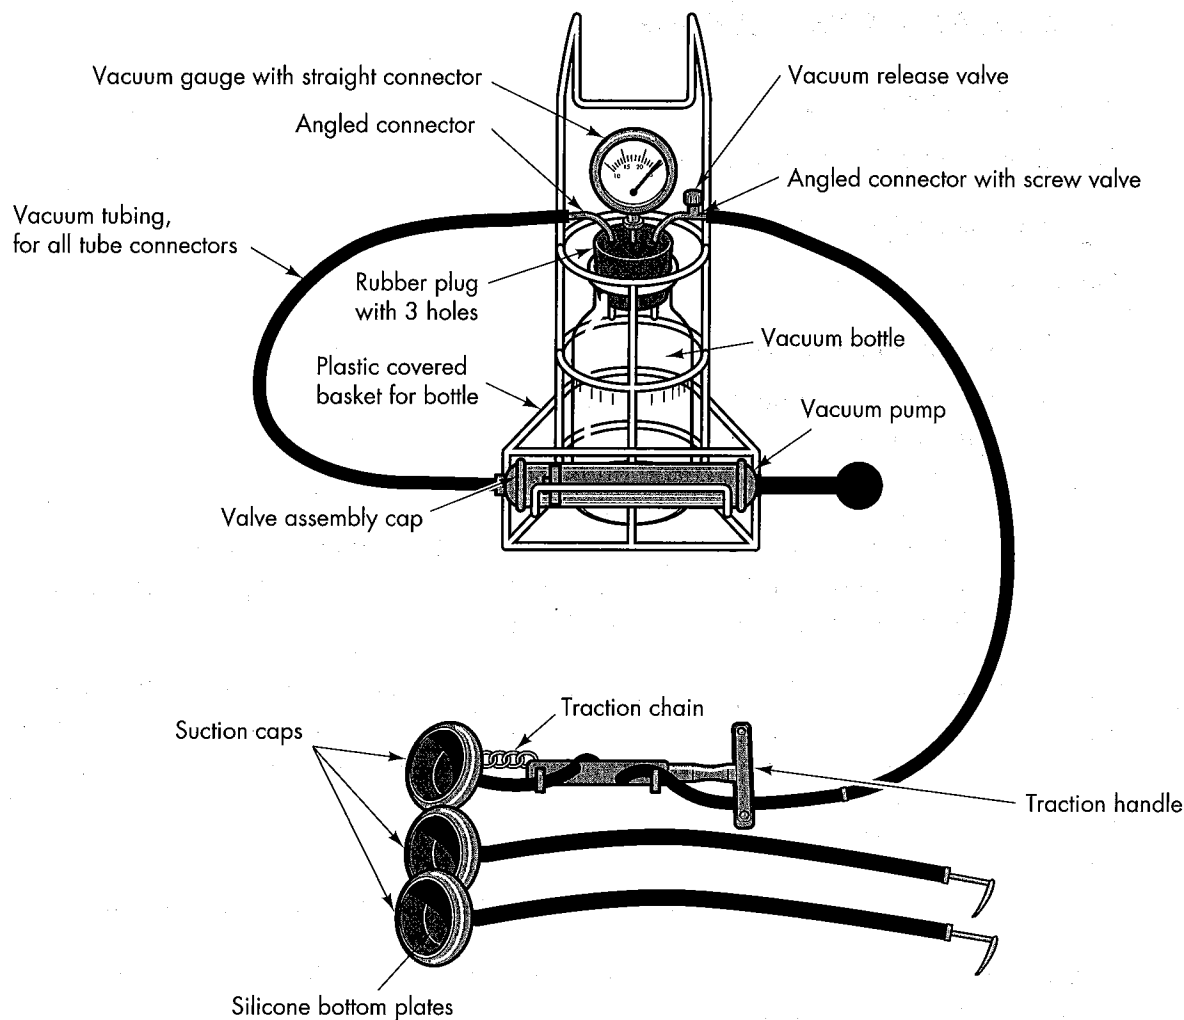

Figure 41: Vacuum extractor
See Figure 41.
- i. assemble the equipment as shown in Figure 41